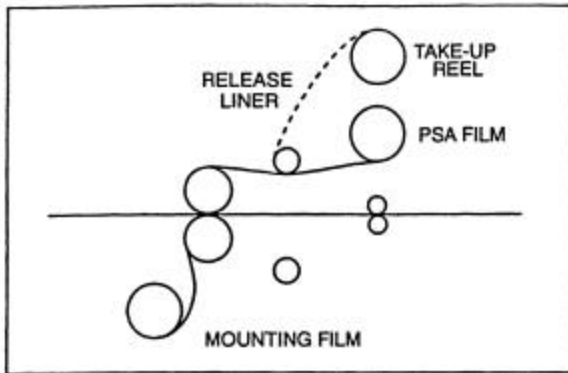

Fig. 13
1. Load the laminator as shown in Figure 13.